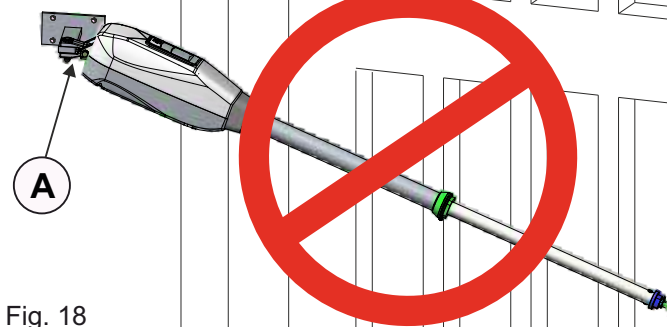

Fig. 18
**! DO NOT tilt the operator further than the swing fork «A» allowed angle - Fig. 18 DO NOT use the hammer to insert the pins!**